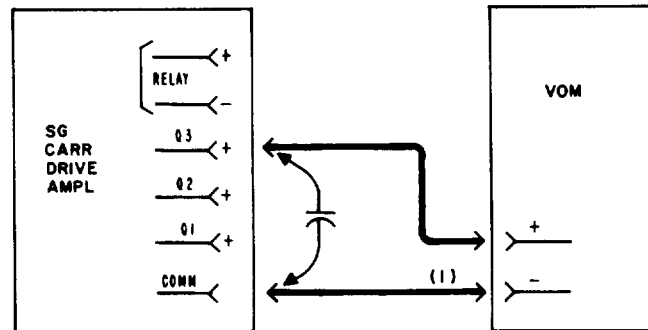

Fig. 4—Supergroup Carrier Drive Amplifier Voltage Tests
1	Measure the dc voltage at each test jack on the drive amplifier under test per Table A [patch (1), Fig. 4].